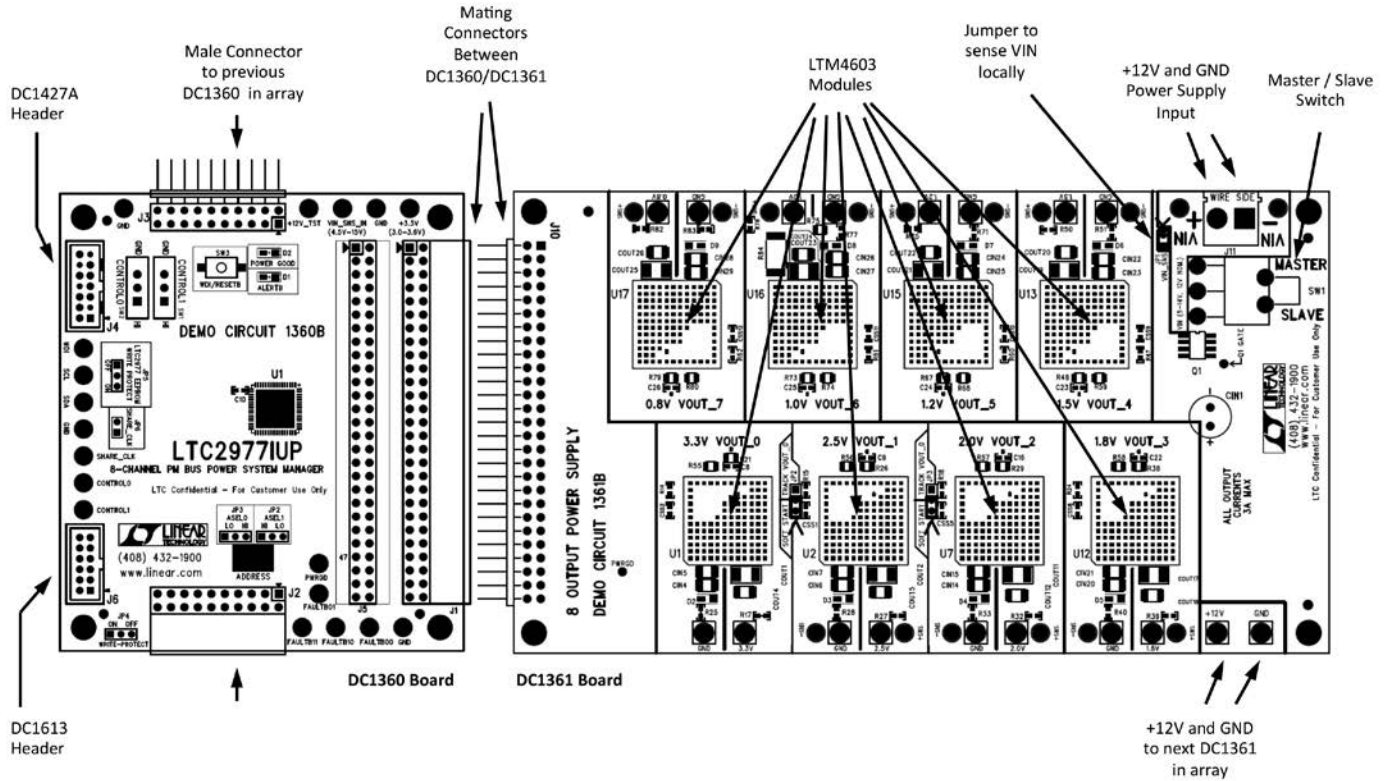

Figure 5. DC1540B Details
6. Connect a 12V power supply with >1/2 Amp capacity to the VIN+ and VIN– inputs of the green terminal block J11 on DC1361B. Do not turn on 12V yet. Be careful to hook up polarity correctly! See Figure 5.